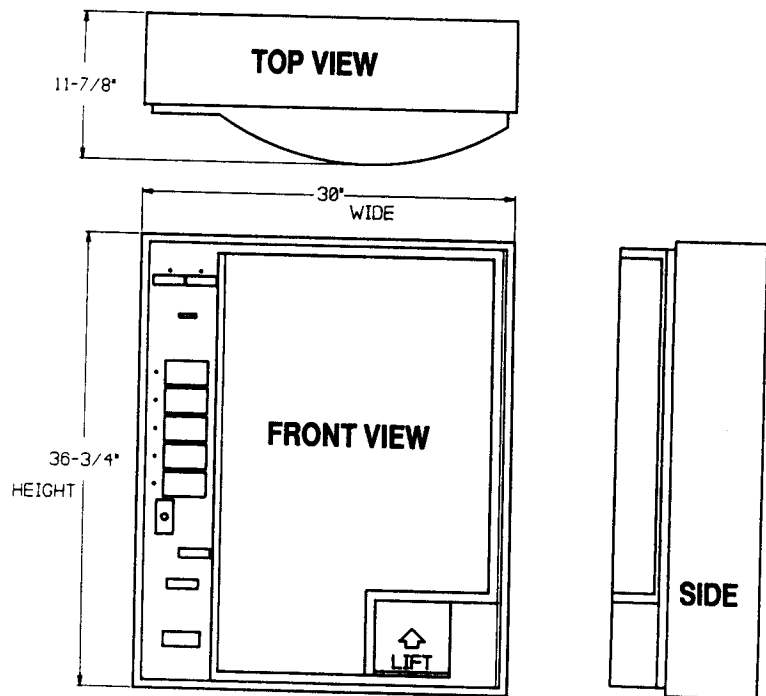

Figure 2a.
- Dimensions of the Electronic Merchandiser are 36 3/4" H x 30" W x 11 7/8" D (See fig. 2a).